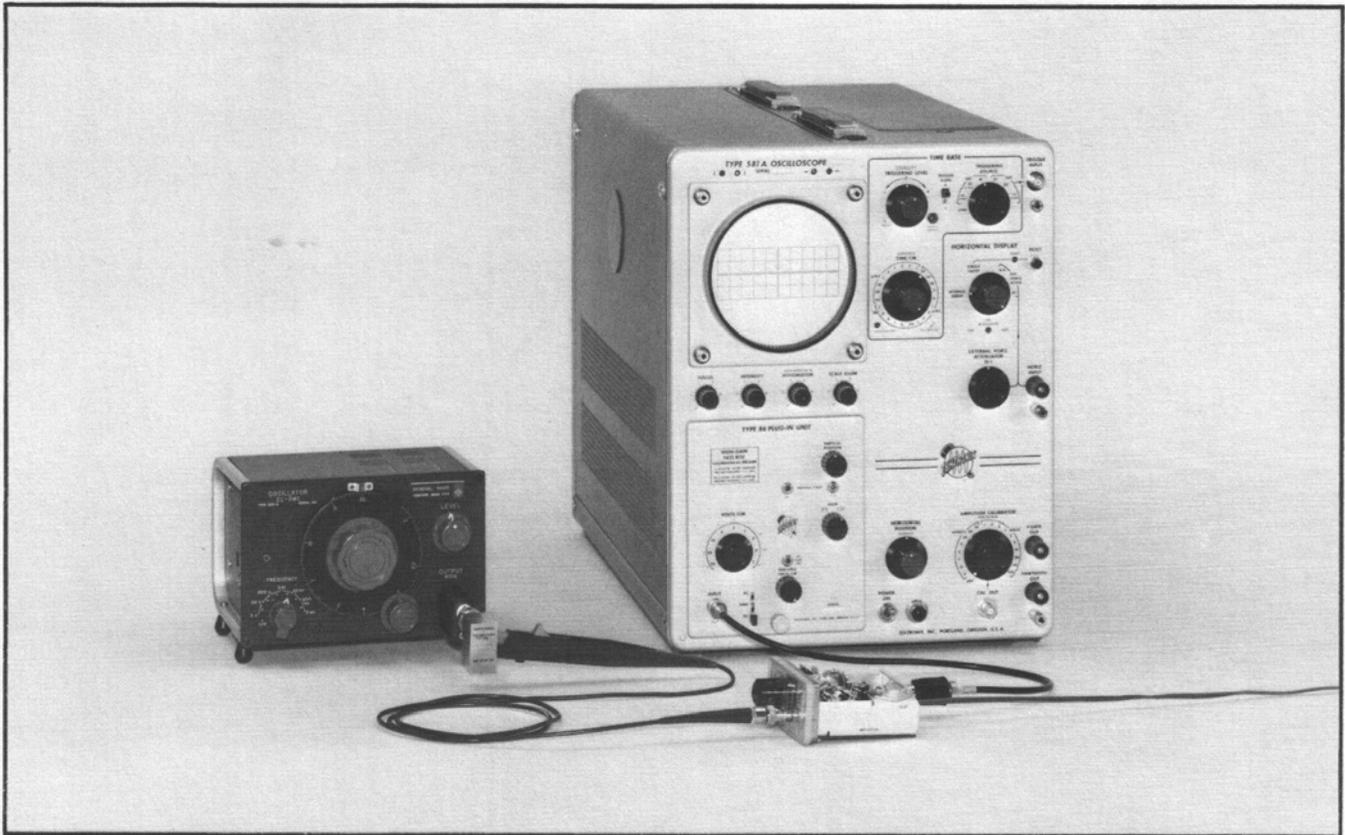

Fig. 5-8. Test setup for low-frequency response check.
b. Connect the P6021 probe from the Type 134 to the test fixture (see Fig. 5-8).
b. Connect the P6022 probe from the Type 134 to the test fixture (similar to Fig. 5-8).